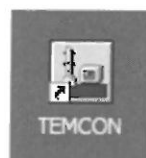
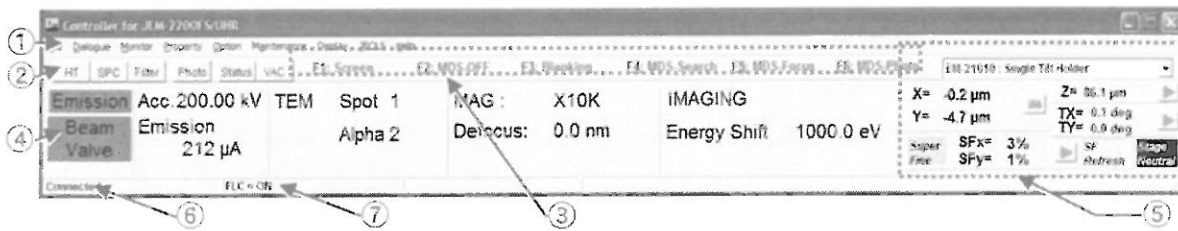

Fig. 4.18 TEM Controller icon
Fig. 4.20 TEM Controller window
The TEM Controller window (Fig. 4.20) appears when the TEM Controller icon (Fig. 4.18) on the PC monitor (Fig. 3.3-⑧) is double-clicked.